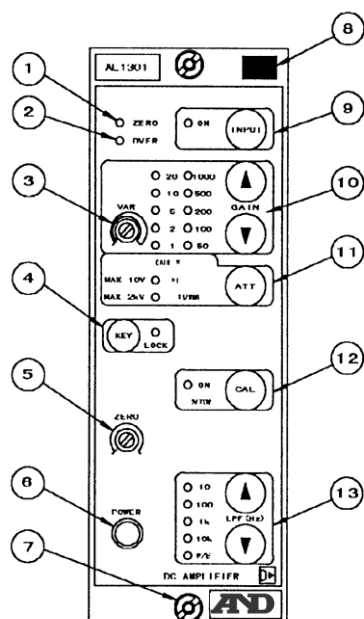

Fig. 2 Front panel
2.1 Front panel part names and functions (see Fig. 2)